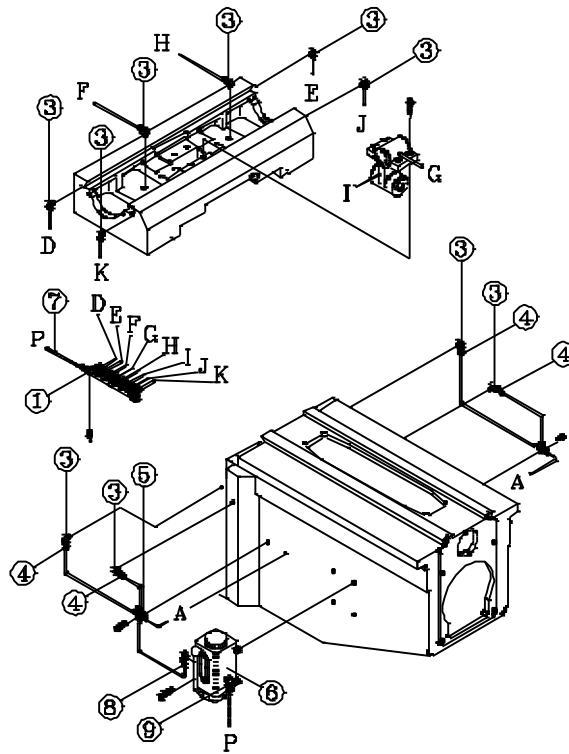

Fig.8-2
8.4.2 The Lubrication of the Column (Fig. 8-2)